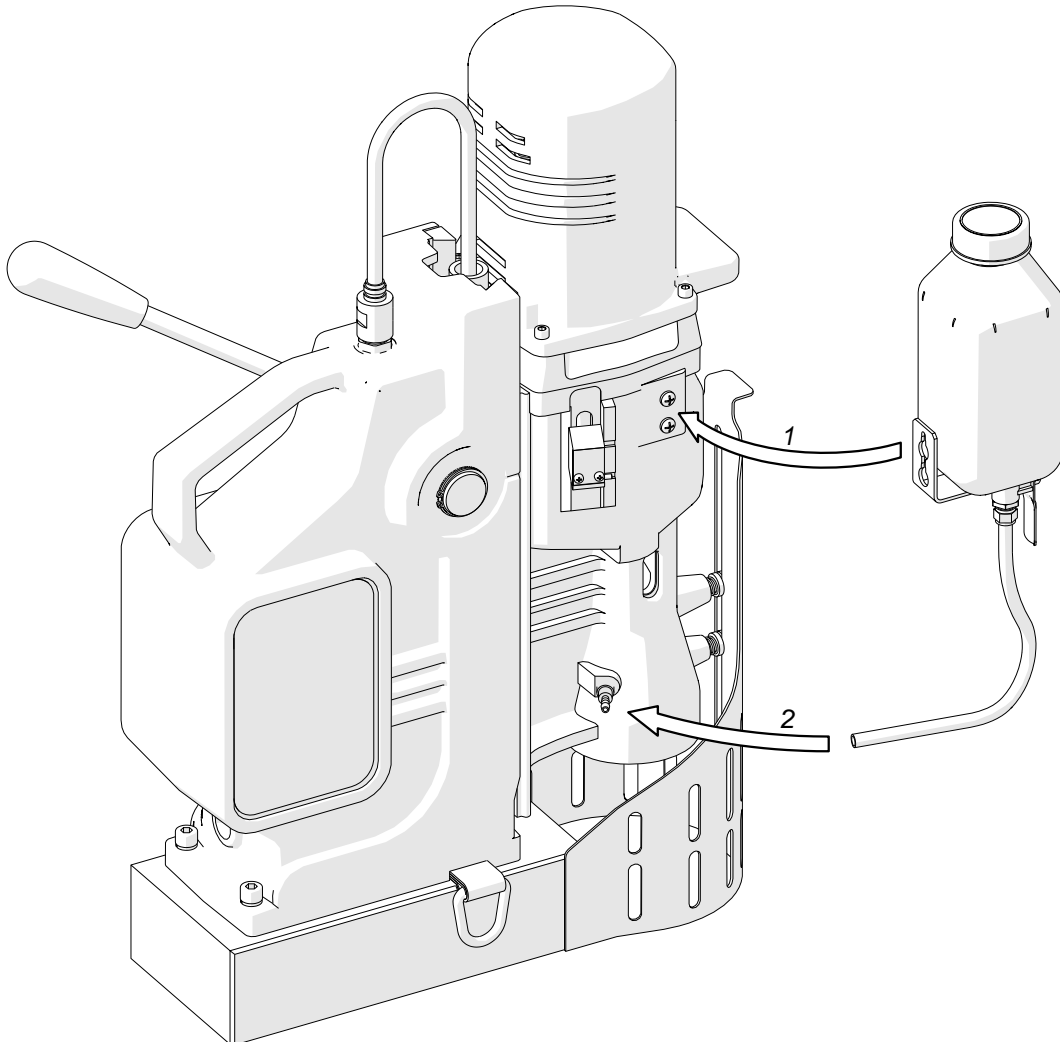

Fig. 6. Installing the cooling system bottle
Hang the cooling system bottle on the screws (1, Fig. 6), and then attach the bottle hose to the hose fitting (2).